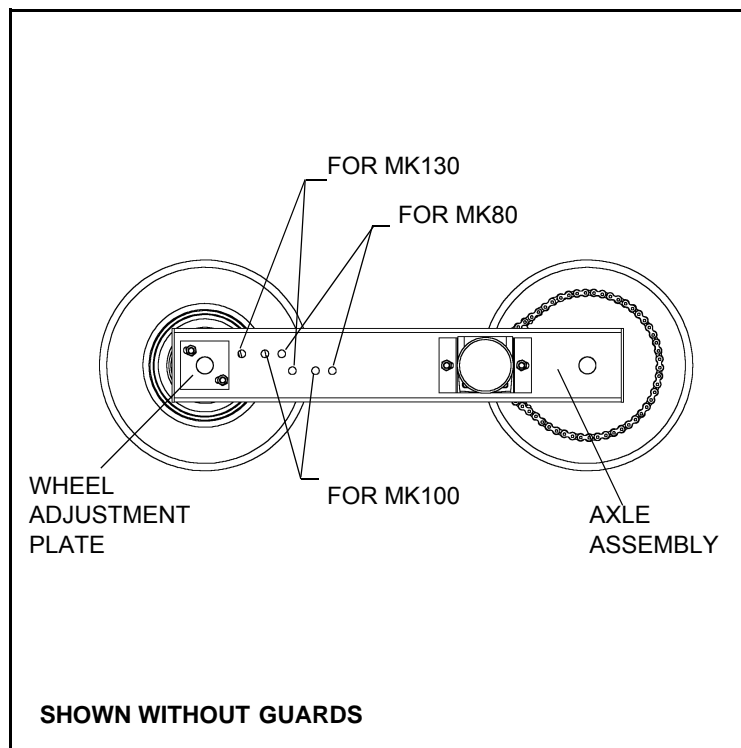

Figure 2.1
1. Attach lower plate of the jack assembly to the axle using two 7/16" x 1" bolts and locknuts as shown in Figure 2.1 and 2.2. Remove chain guard for easier attachment to the jack. **Replace and secure the guard.**